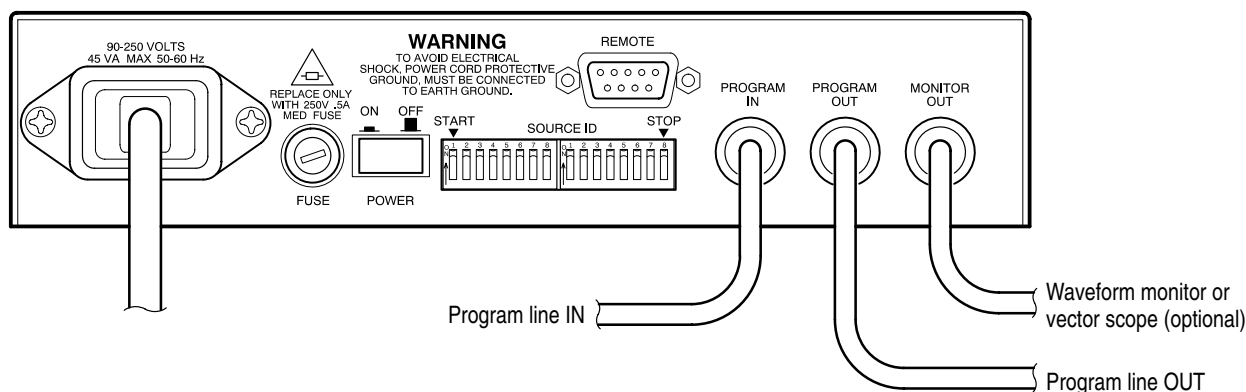

Figure 1–2: A typical installation
2. Connect the VITS inserter to your system as shown in Figure 1–2.